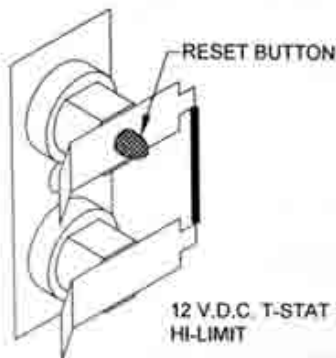

Figure 14
- Reset button on ECO is tripped. (See Figure 14)
(See Figure 14)